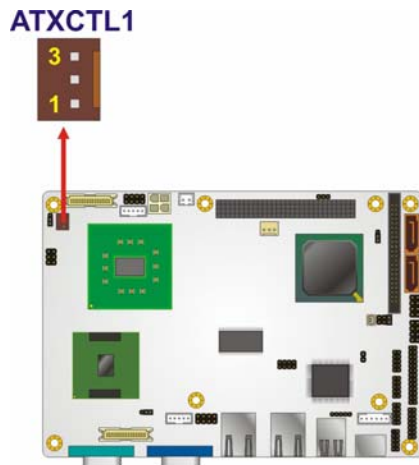

Figure 4-15: AT Power Select Jumper Location
- Jumper Location:** See **Figure 4-15**
The location of the AT Power Select jumper is shown in **Figure 4-15** below.